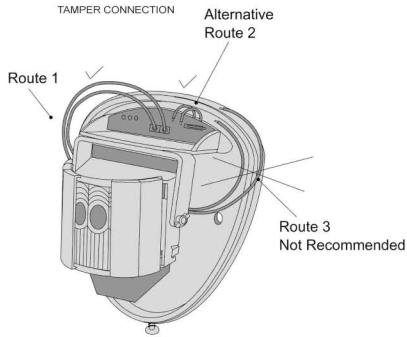

fig. 7
3) Feed standard unshielded twisted four pair alarm cable into the cable entry; bare the wires and connect to the removable terminal block as shown in fig. 7. Screw the unit to the wall ensuring that the tamper pin is correctly located and that the tamper microswitch is closed. **See fig. 4 and 5.** To aid installation, two spare tamper feet are provided. One is 0.04 inches longer and the other is 0.08 inches longer than the tamper foot originally fitted. The tamper foot is a push fit and can be removed by carefully pulling it from the pin. **See fig. 2.**